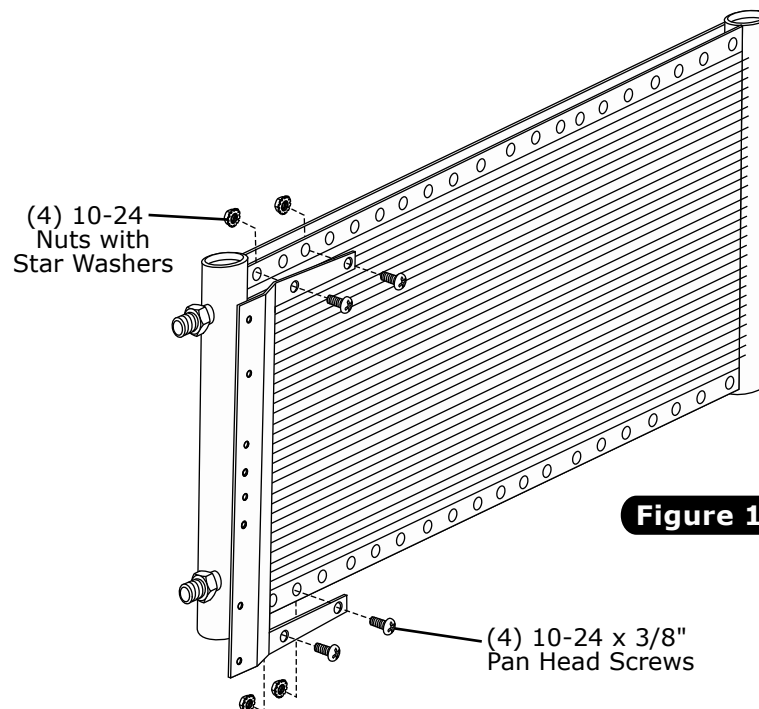

Figure 1
1. Install drier mounting bracket onto condenser using (4) 10-24 x 3/8" pan head screws and (4) 10-24 nuts with star washers as shown in Figure 1, below. **NOTE: Bracket mounts through the first and third holes on the condenser.**